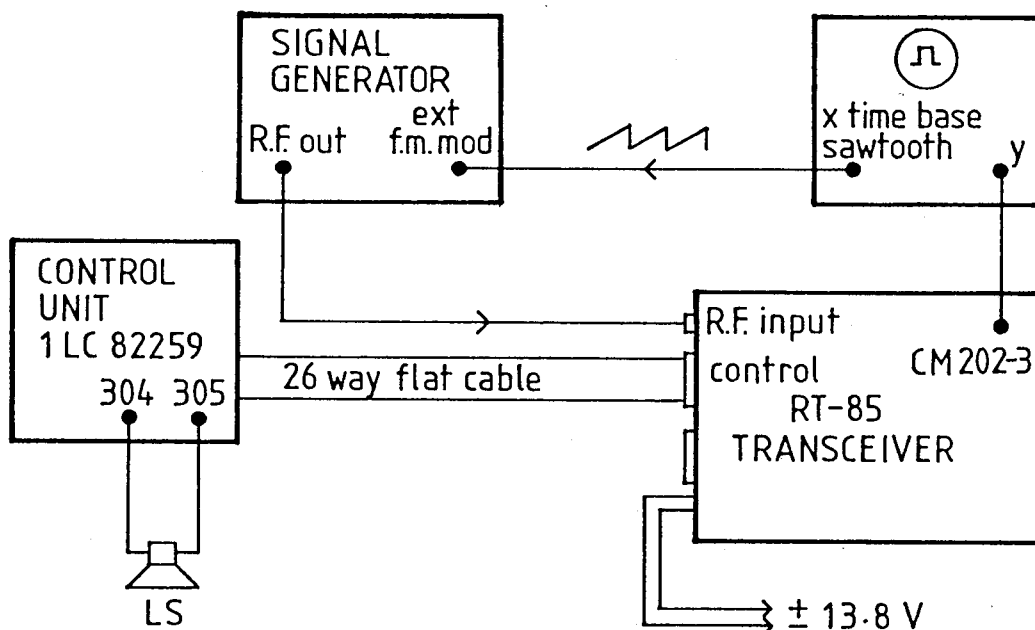

Fig. D-2 IF Alignment Set-Up
1. Connect the test set-up as shown in Fig. D-2 below, with the X time-base sawtooth output of the oscilloscope connected to the external FM modulation input of the signal generator. If the oscilloscope does not have a sawtooth output, use an external sawtooth oscillator and drive both the signal generator and CRO X input.